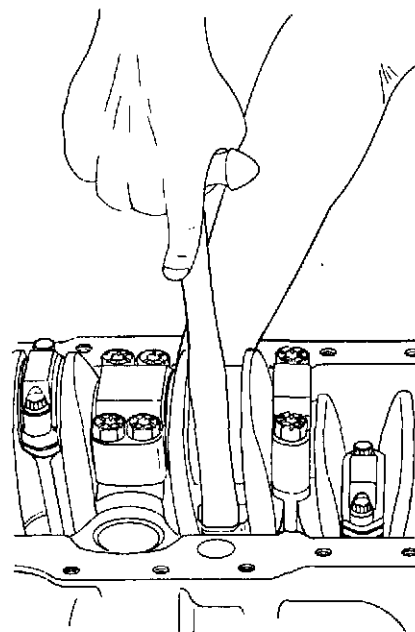

Figure 5-38. Piston and Connecting Rod Removal
11. Crank the engine so that the No. 1 piston connecting rod caps can be removed. Remove the cap bolts (1, figure 5-37), connecting rod cap (2), and lower bearing (3). Be sure to keep the connecting rod, cap, and bearings for each piston together. Do not mix parts. Rotate the crankshaft until the piston is at the top of its stroke, and use a block of wood or hammer handle to carefully push the assembled piston and rod out through the top of the cylinder block. See figure 5-38. After the connecting rod (11, figure 5-37) and piston (10) are removed from the cylinder block, reassemble the connecting rod cap (2) and lower bearing (3) to the connecting rod.
14. To disconnect the connecting rods from the pistons, remove the piston pin retaining rings (8) and push the pin (9) out of the piston (10) and piston pin bushing (12).